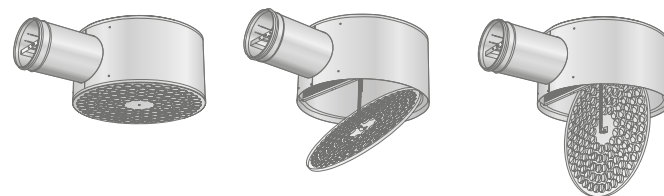

Figure 2. Spring-loaded diffuser front.
- The duct system can be accessed and lightly pulling the spring-loaded diffuser front downwards and then tilting, see figure 2.